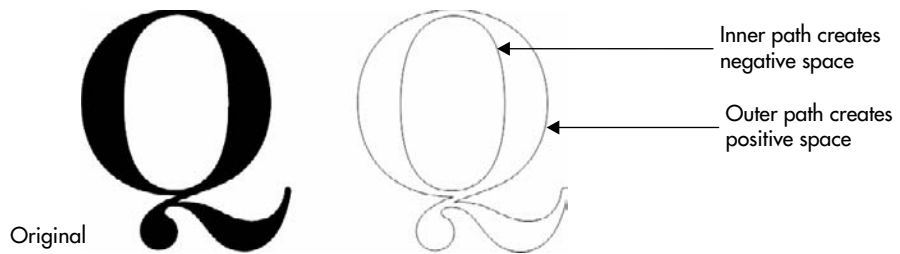

FIGURE 10-10 In vector artwork, “holes” in objects are achieved through compound paths; paths that are combined to create a single object.
1. Choose the Text Tool (F8), click once to define a text insertion point, and then type an uppercase *Q* character. You can assign the character any typeface you like; the more ornamental the character, the more obvious the compound path will be. This character shape, shown in Figure 10-10, has two combined paths: one represents the “positive” space and one represents the “negative” space shape.